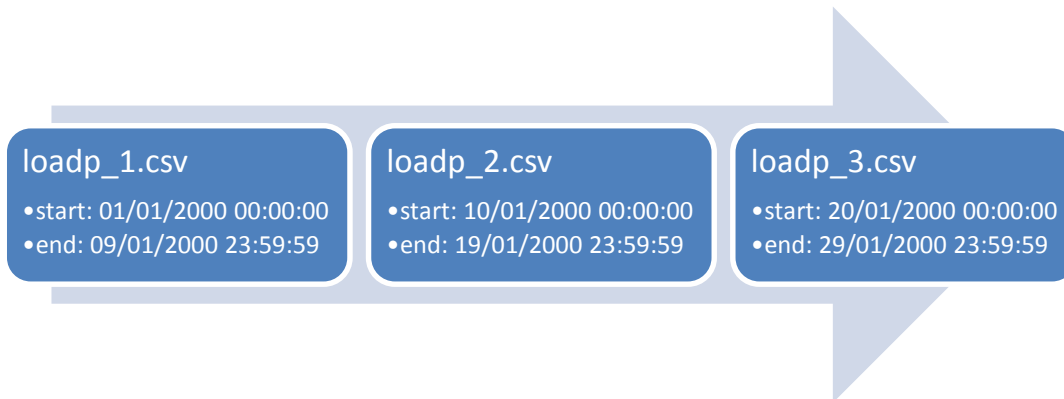

Figure 35 Chaining multiple CSV files
- Whilst using Excel is convenient, it is not an ideal tool for generating large 1 second time series data. However, the multi input file flexibility of Asim would allow many 12-day CSV files to be specified as long as the time stamps were continuous. See Figure 35 for an example.